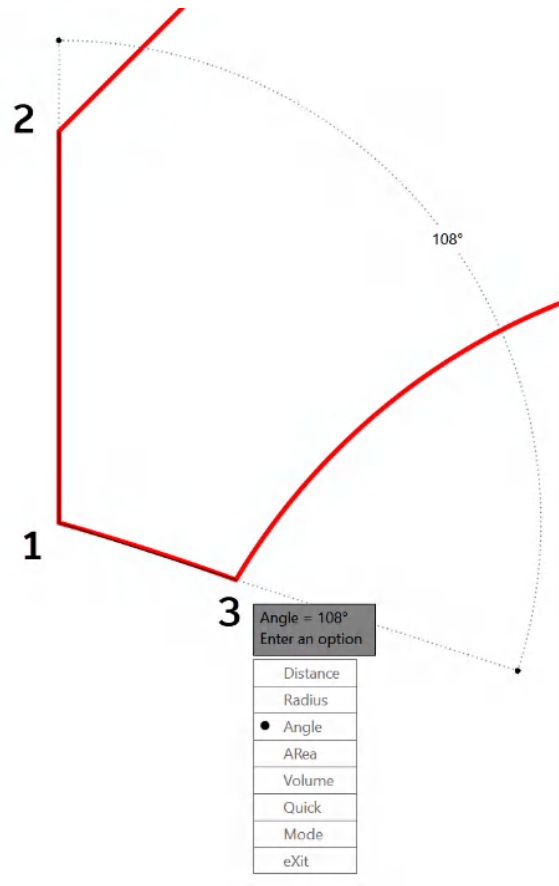

Figure 6.15: The displayed angle measured using three vertices (numbered)
- You can also measure angles using vertices. Select **Angle** again from the **Measure** menu, and press *Enter* to confirm the **<Specify vertex>** prompt. Select the three points in the order shown in *Figure 6.15*. You will see that the measured angle is *108 degrees*. Make sure that the first point selected is the apex of the angle to be measured (1), followed by the other two vertices that make up the angle (2 and 3).